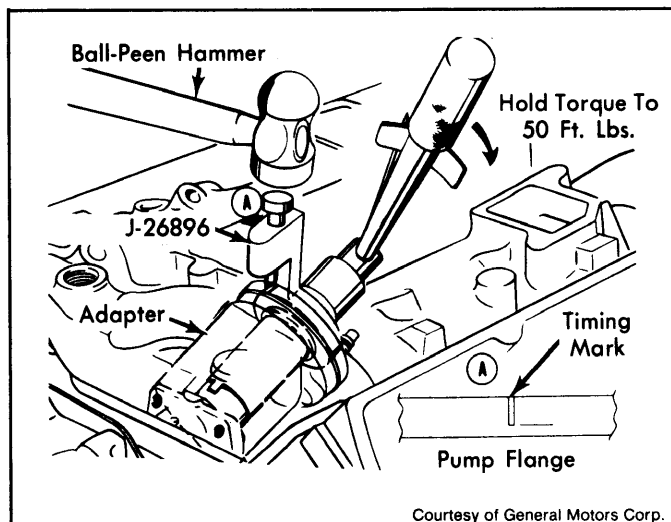

Fig. 6: Holding Torque On Adapter While Marking Timing Marks
4) Install Injection Pump Timer (J-26896) into injection pump adapter. Torque timer in direction of No. 1 cylinder to 50 ft. lbs. While holding torque, mark injection pump, lines and air crossover assembly. See Fig. 6. Remove injection pump timer. Install injection pump, lines and air crossover assembly.